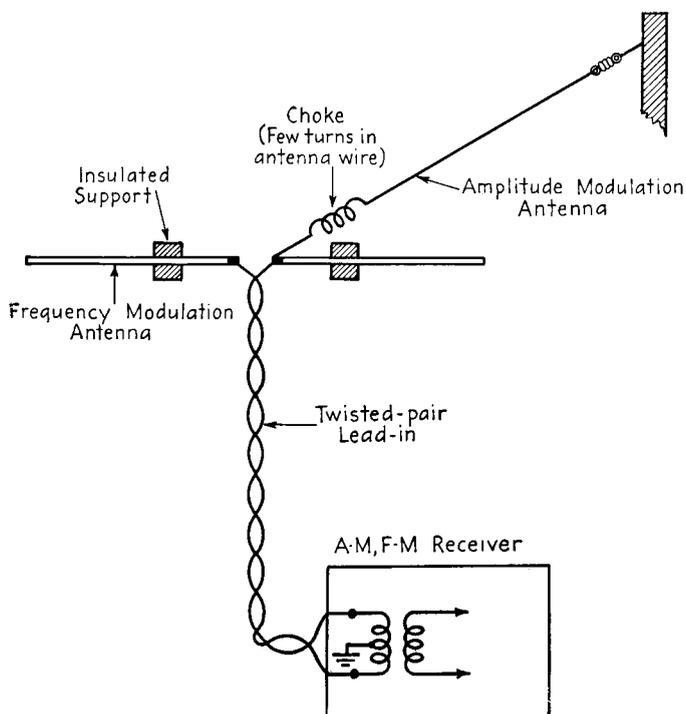

FIG. 17-26. A-M and F-M antenna.
**A-M/F-M receiver antenna.** Figure 17-26 shows an antenna used for a combination F-M and A-M receiver. The F-M antenna is a dipole whose size is about one-half the wave length of the center of the F-M band. The A-M antenna is a long lead connected at one end to one of the twisted-pair lead-in wires. A choke, made by coiling a few turns in the long A-M lead, prevents interaction between the two antennas.